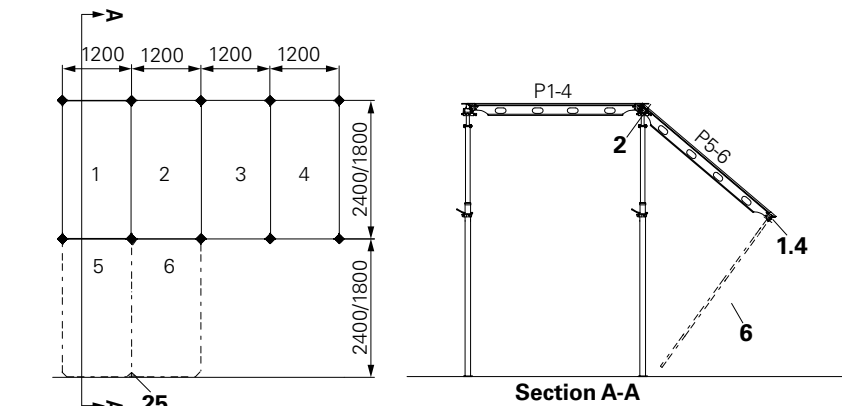

Fig. A8.01
2. Hang the panel 5 and panel 6 along with corner insert AD (**25**) onto the drophead ADH (**2**) flyplate pin. (Fig. A8.01)